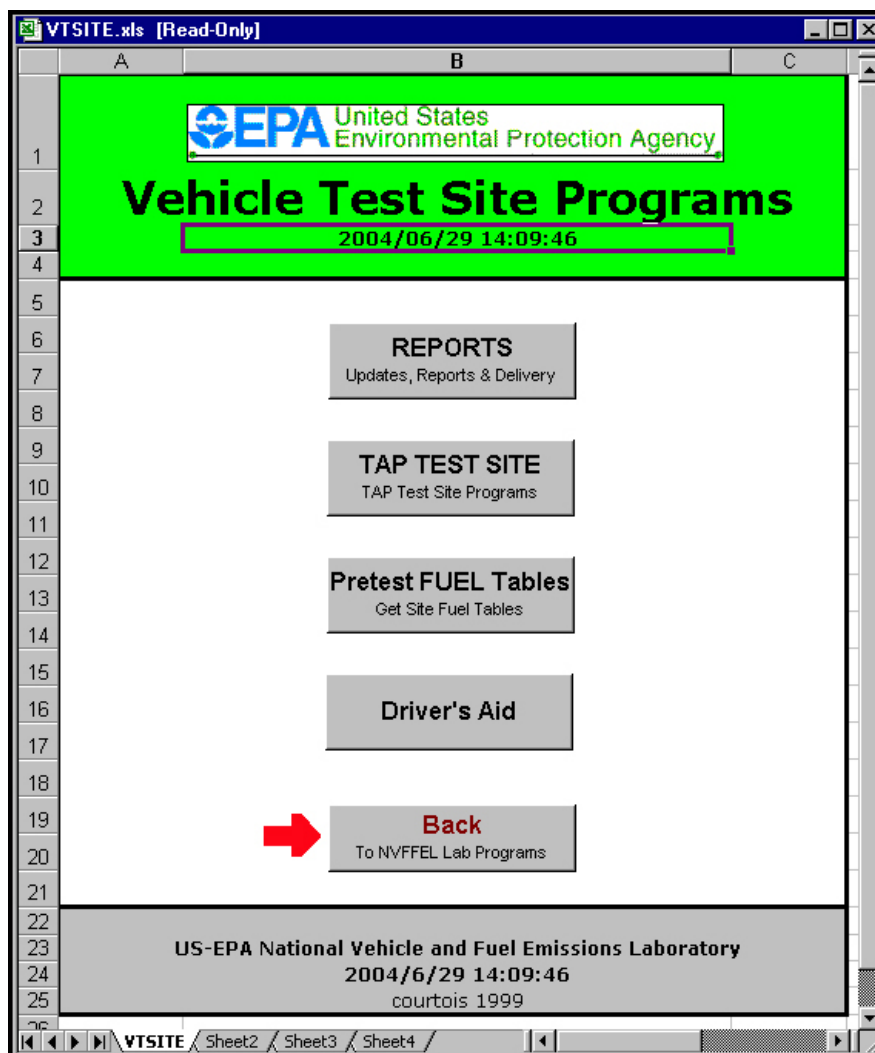

Figure 48
- 617 The "Vehicle Test Site Programs" screen will appear. Click on the "Back" button. See the arrow in Figure 48.